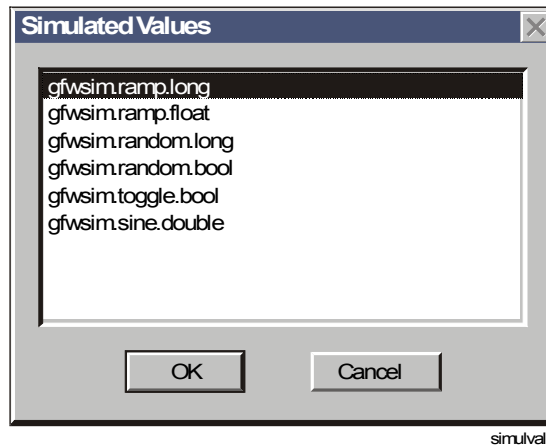

Figure 10-7: M-Graphics Simulated Values Dialog Box
2. Select Simulation Variable. The Simulated Values dialog box appears (Figure 10-7).